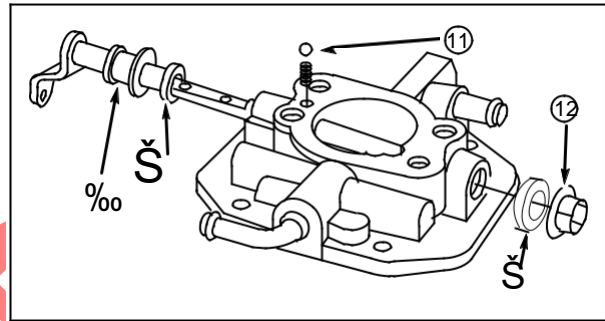

Fig. 108
Install new choke shaft seals (10) with sealing lip out, **Fig. 108**.